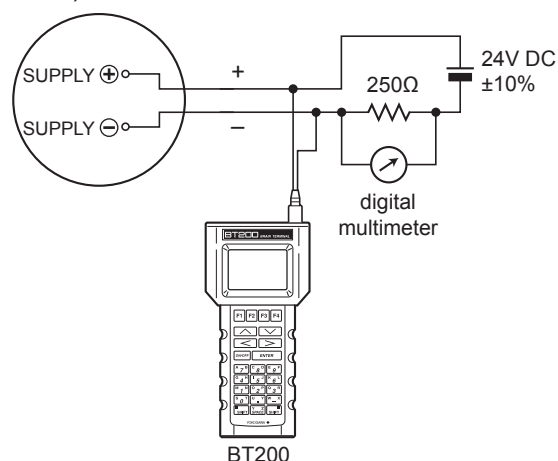

Figure 10.1 Connection of Maintenance Instruments
1. Connect the instruments by reading Figure 10.1, and warm up for three minutes more.
3. In case the load resistance is 250Ω, digital multimeter indicates 5V. Otherwise if it is known load resistance value, it indicates  $R (\Omega) \times 0.02 (A)$ .